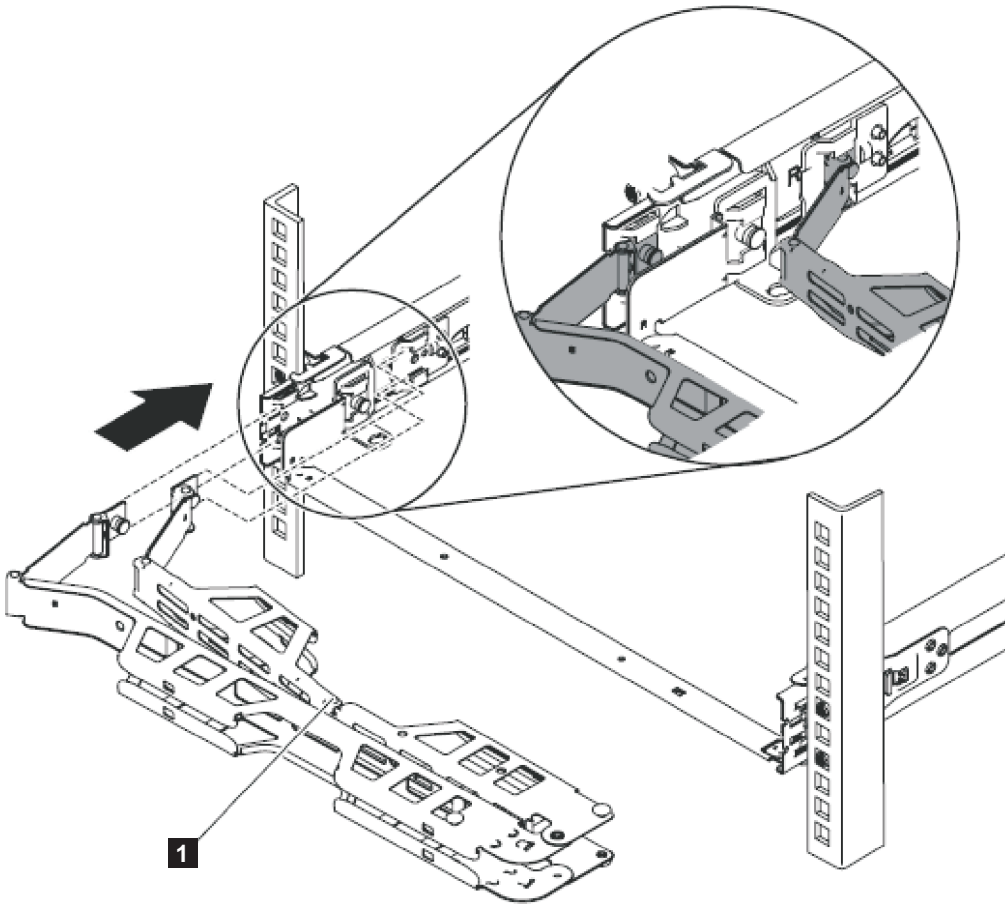

Figure 15. Installing the cable-management arm
2. Install the cable management arm, as shown in Figure 15 on page 32.
**Note:** Make sure that the junctions on the arm, as shown by **1** in Figure 15, are facing the node. Place the cable management arm on the support arm. Pull out both cable-management-arm pins and then slide the cable-management-arm tabs into the slots on both the inside and the outside of the slide rail. Push the tabs until they snap into place.